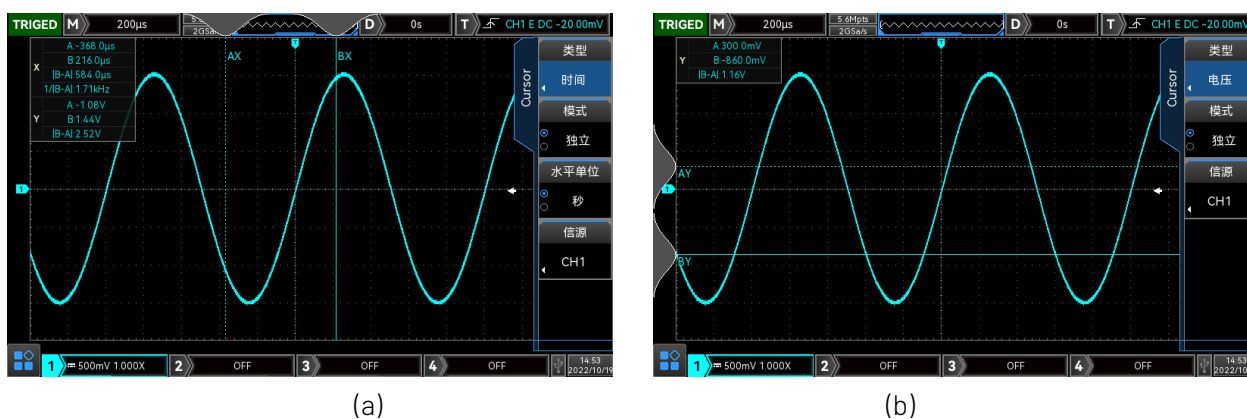

Figure 11
- Slide down in vertical to directly turn on time measurement cursor as shown in Figure 11 (a);
- Slide right in horizontal to directly turn on voltage measurement cursor as shown in Figure 11 (b);